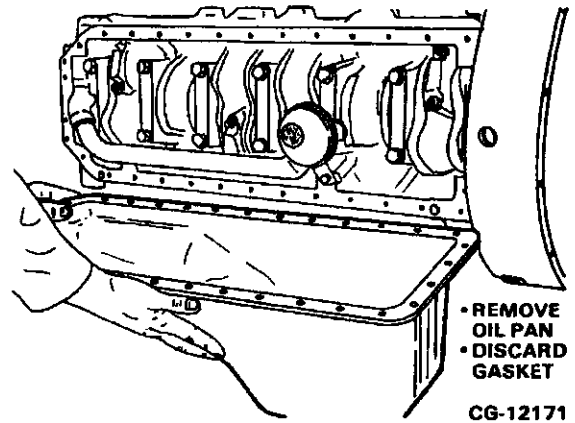

Figure 7.36. Remove Oil Pan
- c. Remove oil pan and gasket from the crankcase. Discard the gasket. Refer to Figure 7.36.